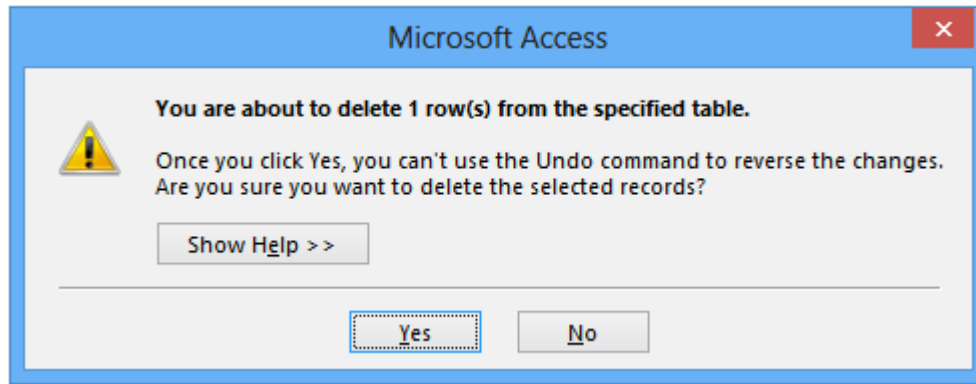

Figure 46: Delete Message Box
2. Execute the Query: When you try to execute the query, the message in Figure 46 appears. Click **Yes** to delete the row. You should only perform Delete queries once. If you perform them more than one time, you will generate an error message about the record not existing. Close and save the query as “SQL7” when prompted.